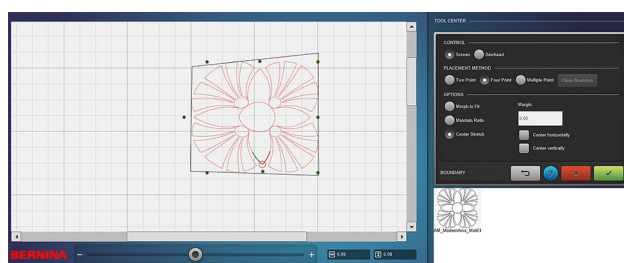

Fig. 36
- Center Stretch (Fig. 36); this allows the design to be “stretched” by activating any of the eight nodes as the stretch point. Activate a node by a single right-click of the mouse or touch and hold on the PC screen. The active node is green.